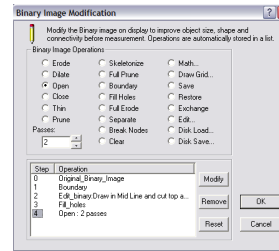
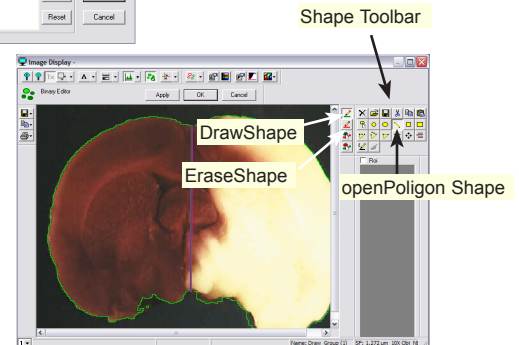

fig.46
fig.47
8. Click **Modify** in the **Task** toolbar. Apply **Boundary** to outline the infarct area (fig.46) > **Edit**, draw a midline, press the **Open Polygon Shape** and **Draw** icon. Click and drag to draw a mid-line. > Click **Apply** > Press the **Erase** icon and the **Open Polygon Shape** to erase the top and bottom where the midline intercepts as shown in figure 47 > Click **Apply** and ensure that the line is separated from the other half > **OK** > Apply **Fill Holes** > **Open 2** passes (fig.46).